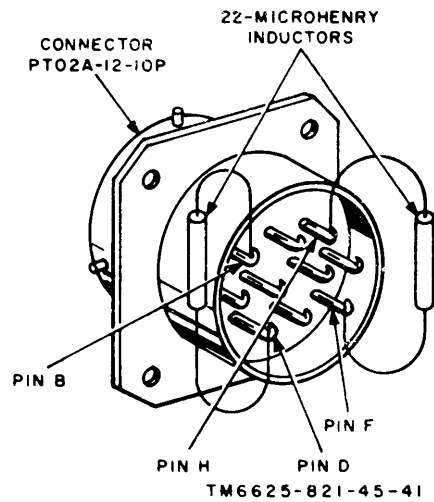

Figure 4-3. Test jig for the LOOP SIMULATOR, construction details.
c. Fabricate a test jig for the LOOP SIMULATOR in accordance with the details in figure 4-3. This test jig is required to apply a load to the LOOP SIMULATOR output when measuring its output signal.